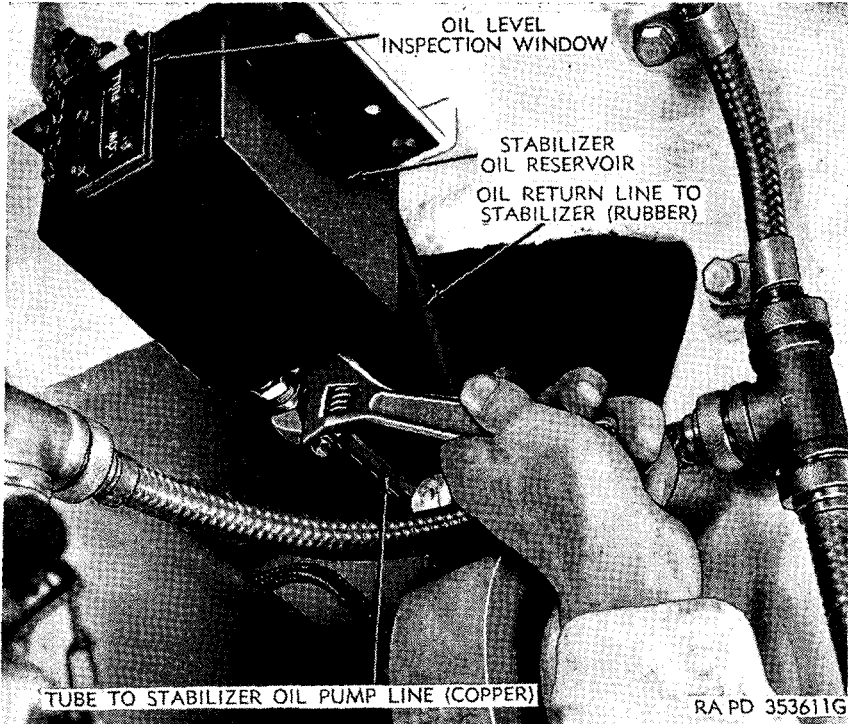

Figure 173. Removing oil line from stabilizer oil reservoir.
b. Remove reservoir filler plug (fig. 173) from elbow on top of oil reservoir.
- (1) *Oil pump oil lines.* Disconnect the four oil lines from the oil pump and collect surplus oil in the container. Tag lines for identification.
- (2) *Cylinder and piston and oil reservoir oil lines.* Disconnect the three oil lines from the cylinder and piston assembly and the one oil line (fig. 173) from the oil reservoir and remove lines.
- (3) *Cylinder and piston assembly.*
- (4) *Oil reservoir.* Loosen and remove the four nuts, bolts, and washers attaching the oil reservoir to its hangers in the turret roof and remove reservoir (fig. 173).
- (5) *Gyro control and gear box.* Remove gyro control and gear box as follows: